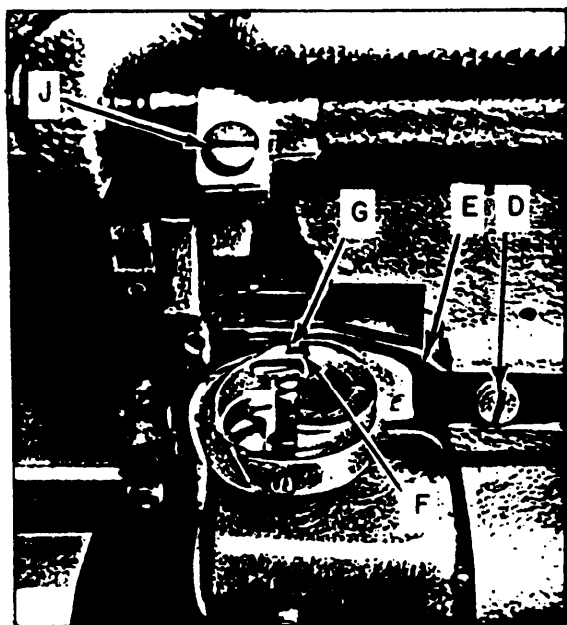

Figure 9-50.—Sewing hook.
If the sewing hook is not timed correctly, loosen the three setscrews in its hub. Turn the hook on its shaft to align the point with the center of the needle, as shown in figure 9-50. Tighten the three setscrews.
Remove the needle, slide plate, and bobbin case. Take out screw (D of fig. 9-50) and remove hook retainer (E of fig. 9-50). Loosen the three setscrews in the hub. Turn the handwheel until the thread guard (widest part) of the hook is at
When installing a new sewing hook, have the thread guard at the bottom. Now turn the bobbin case holder until the notch (F) is at the top. Replace the hook retainer (E) watching that the projection (G) near its end (fig. 9-50) enters notch (F) in the bobbin case holder. Fasten the hook retainer to the underside of the bed by means of its screw. Replace the needle and time the sewing hook as described in the preceding paragraph. Reinstall the bobbin case, throat plate, and slide plate.
To adjust the position of the feed dog, loosen screw (J of fig. 9-50) and raise or lower the feed dog; then tighten the screw. When raising or lowering the feed dog, be careful that its underside does not drop so low that it strikes the hook.